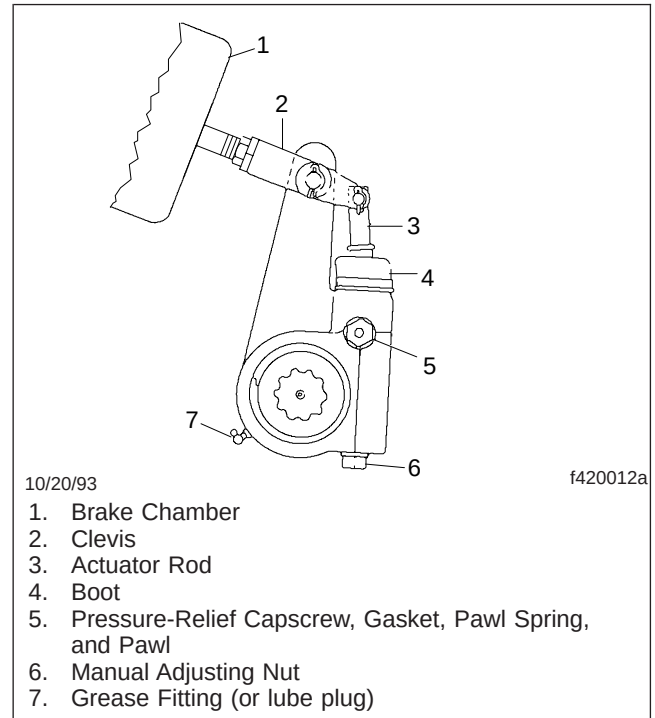
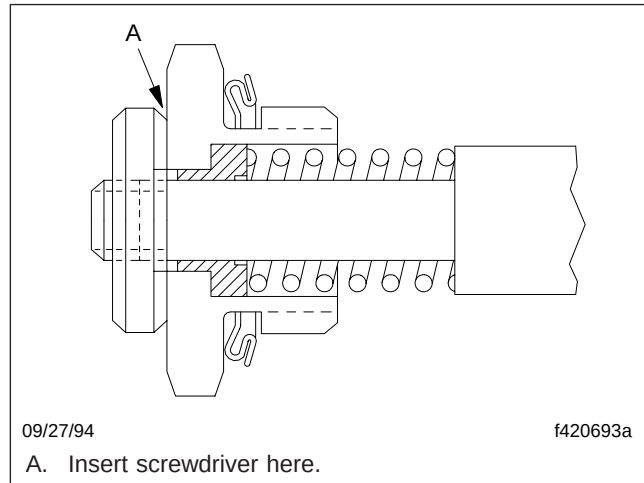

Fig. 4, Meritor Automatic Slack Adjuster
Fig. 6, Pull-Pawl Assembly (sectional view)
1. Check the boot for cuts, tears, etc. (**Fig. 4**), and replace it if necessary.
3.3 If the free-stroke is incorrect, remove the pressure-relief capscrew, gasket, pawl spring, and pawl (Fig. 4, Ref. 5) from the slack adjuster housing. If equipped with a pull-pawl assembly (Fig. 6), carefully insert a screwdriver and raise the relief cap about 1/8 inch (3.2 mm).
- 4.3 The brake chamber stroke must be less than the measurements shown in **Table 1**. If the brake chamber stroke is incorrect, remove the pressure-relief cap-screw, gasket, pawl spring, and pawl (**Fig. 4**, Ref. 5) from the slack adjuster housing. If equipped with a pull-pawl assembly (**Fig. 6**), carefully insert a screwdriver and raise the relief cap about 1/8 inch (3.2 mm).
1. Remove the pressure-relief capscrew, gasket, pawl spring, and pawl. See **Fig. 4**, Ref. 5.